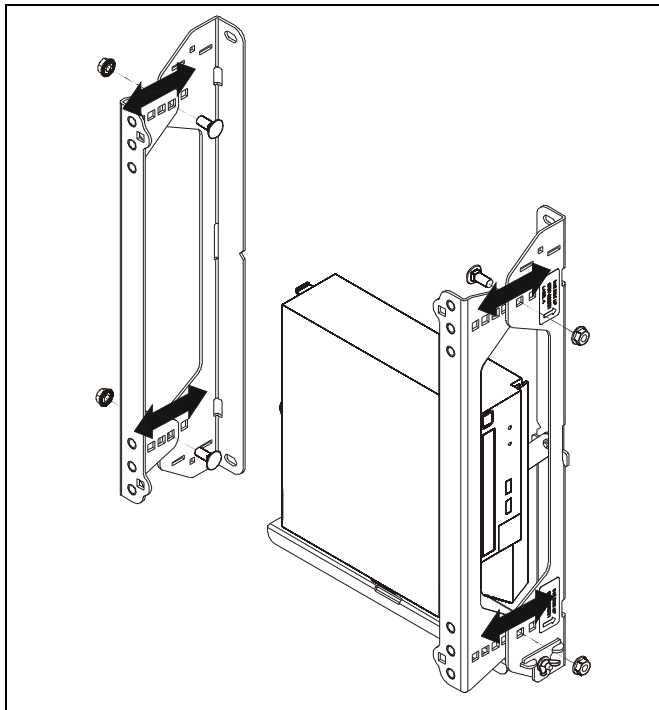

Figure 6
- Adjust depth of brackets depending on depth of CPU to install. Remove four screws and nuts holding adjustment screws in place and replace after desired depth is achieved. (See Figure 6)